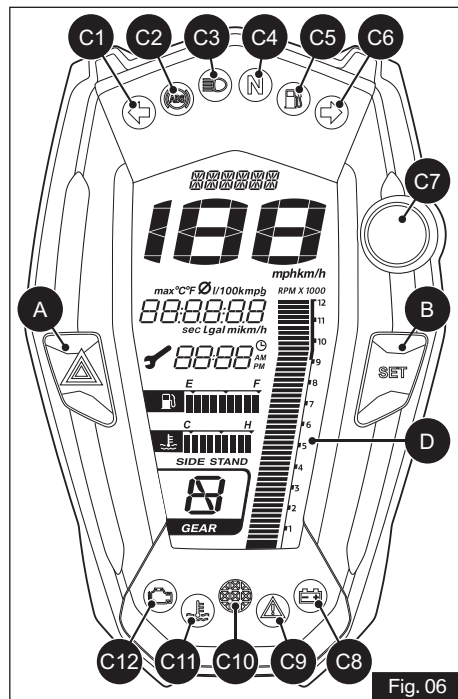

Fig. 06
A) Hazard switch (ref. Fig. 06)
- ♦ Press the button '▲' (A) to turn ON / OFF the hazard lamps.
B) SET button (ref. Fig. 06)
- ◆ Press the button (B) for selecting the display mode.
C) Warning and indicator lights (ref. Fig. 06)
Warning and indicator lights (ref. Fig. 06)